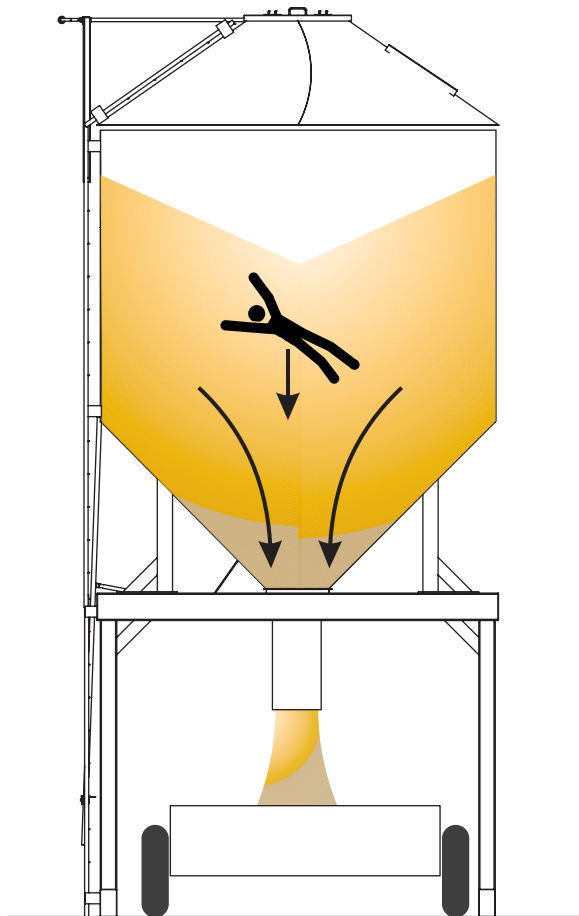

Figure 2-1 – Flowing Grain Entrapment
- Enter a silo when grain is flowing (Figure 2-1).